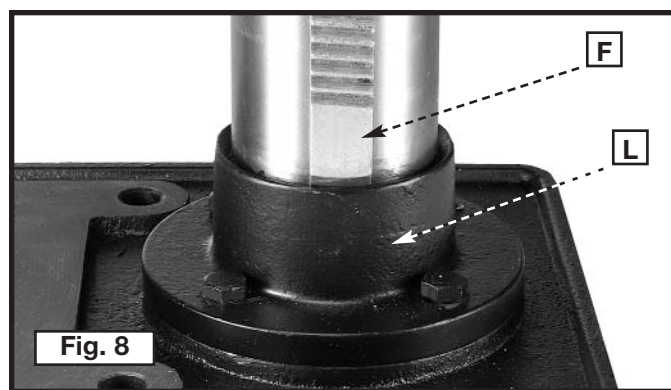

Fig. 8
NOTE: Place the bottom of the raising rack (F) Fig. 8 inside the flange (L) on the drill press base.